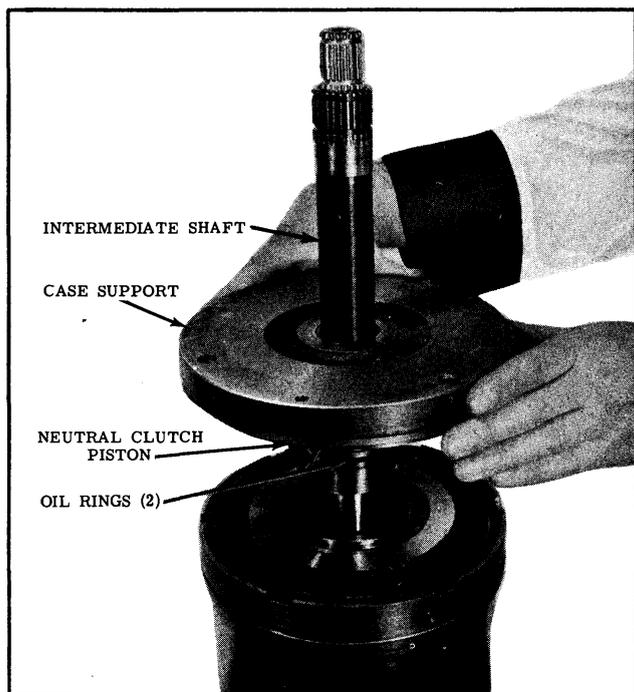

Fig. 3-84 Installing Case Support
30. Install case support assembly, hub down, over the intermediate shaft, being careful not to damage the bushing while passing over the sharp shoulders on the shaft. (See Fig. 3-84)